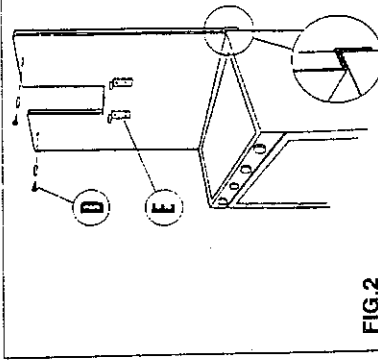

FIG. 2
- Securing with rear panel: The rear metal panel is positioned on the wall at the upper part of the oven top (Fig.2). Rest the lower edge of the panel behind the oven top and secure the upper edge to the wall, inserting the screws and plugs supplied through the two holes drilled in the panel (Fig.2D). The apparatus is fixed to the rear panel in a similar way as to the wall, using the brackets supplied (Fig.2E). The exact position of the apparatus depends on the rear panel.